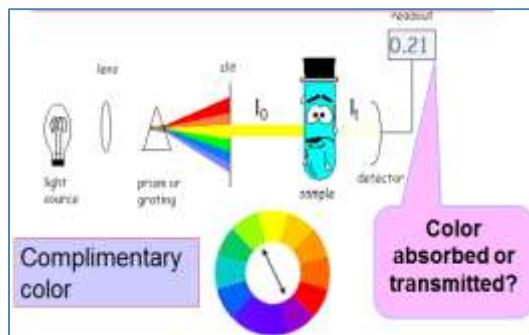

Figure 1: Spectrophotometric analysis illustration
- Determine the concentration of phosphate in a water sample by spectrophotometric analysis (see Figure 1 spectrophotometry illustration).